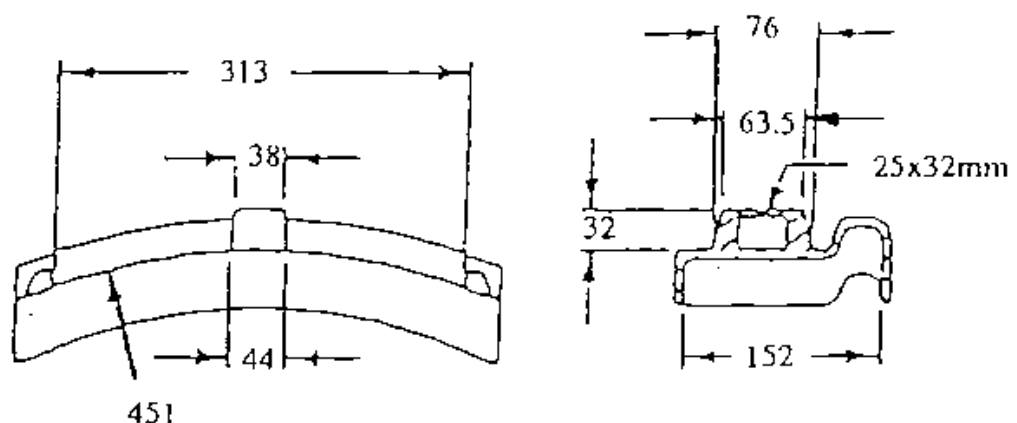

Figure 2 – Abrasive brake block pattern #191
- l) Pattern #191 abrasive brake blocks have been modified for SRA/RIC use. The lug on the back of the block has been relocated, see Figure 2.